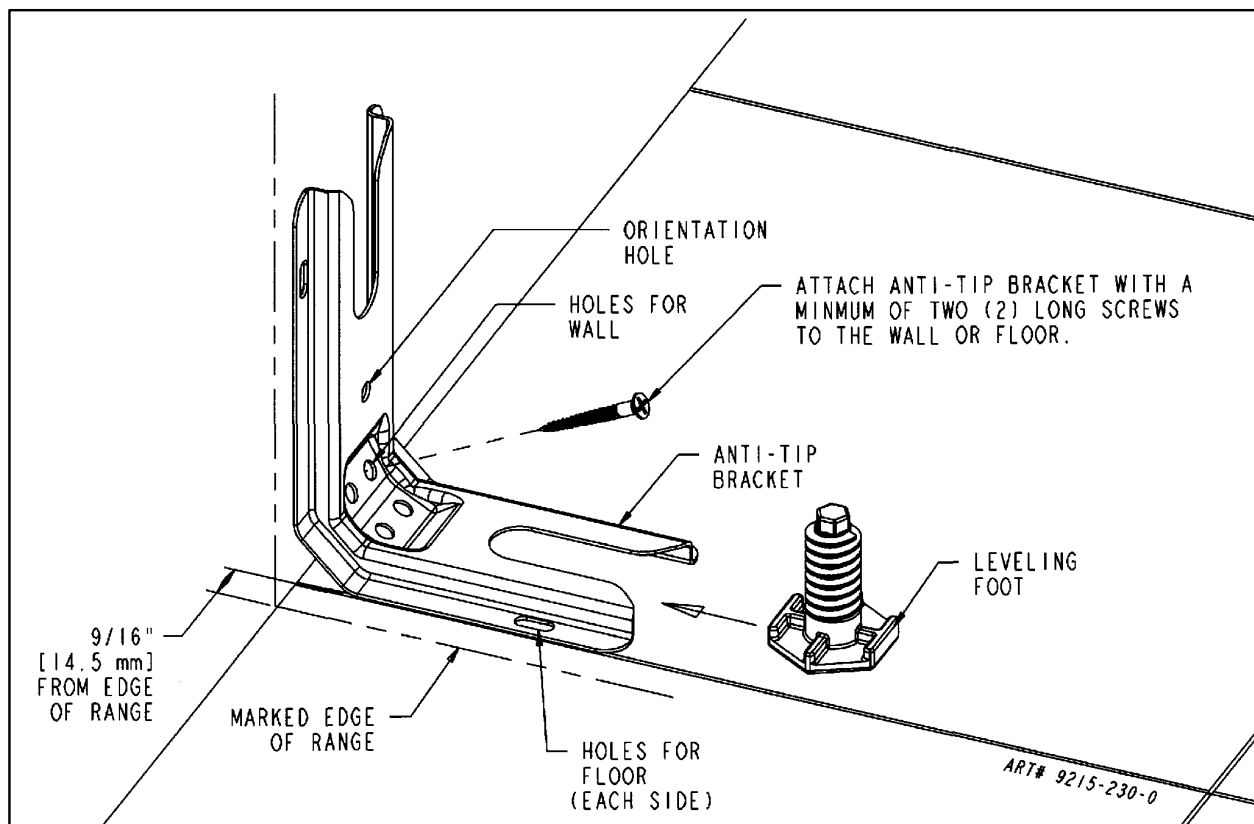
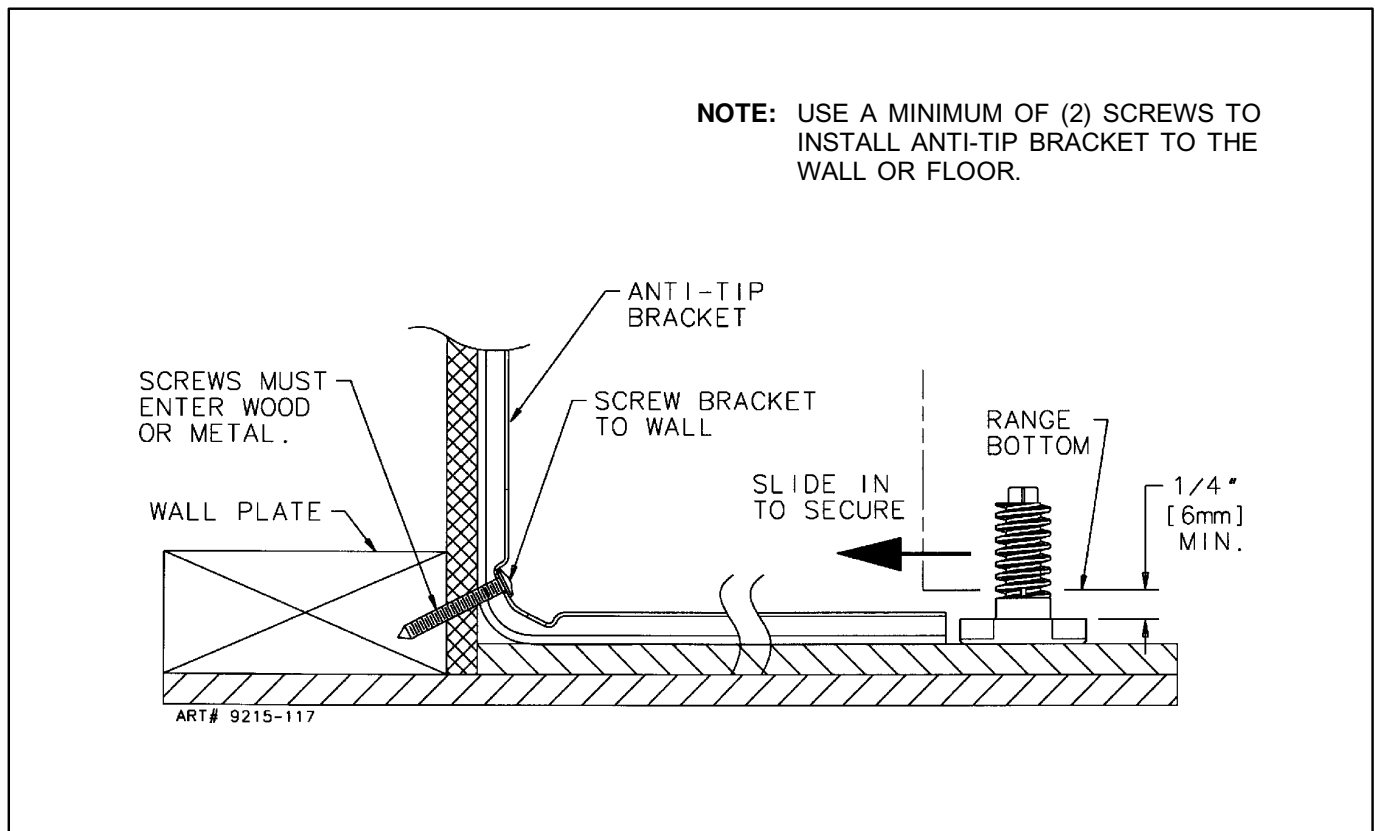

FIGURE 3
FIGURE 4
### STEP 1 - Locating The Bracket (See Figure 3)
- B. Place the BRACKET 9/16" (14.5 mm) from the marked "EDGE" toward center of opening and against the back wall, as shown in figure 3, with orientation hole against wall.
- C. Use the bracket as a template and mark the required holes, as shown in figure 3 for the type of construction you will be using.
1. Floor: Locate the center of the two holes identified in figure 3 as "HOLES FOR FLOOR". Drill a 1/8" (3 mm) pilot hole in the center of each hole (a nail or awl may be used if a drill is not available). Secure the ANTI-TIP bracket to the floor with the two screws provided. Proceed to Step 3.
2. Wall: Locate the center of the two holes identified in figure 3 as "HOLES FOR WALL". Drill an angled 1/8" (3 mm) pilot hole in the center of each hole as shown in figure 4. (A nail or awl may be used if a drill is not available). Secure the ANTI-TIP bracket to the wall with the two screws provided as shown in figure 4. Proceed to STEP 3.
1. Suitable screws for concrete construction can be obtained at the hardware store. Drill the required size hole for the hardware obtained into the concrete at the center of the holes identified in figure 3 as "HOLES FOR FLOOR". Secure the ANTI-TIP bracket to the floor. Proceed to STEP 3.
**Note:** A minimum clearance of 1/4" (6mm) is required between the range and the leveling foot that will engage the anti-tip bracket, (see figure 4).